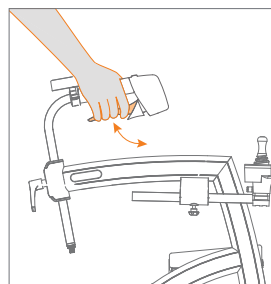

Figure 68: Release the parking brake.
- To remove the walker from the parking position, squeeze the brake handles again and release them (**Figure 68**). The rollator is no longer in the parking position.